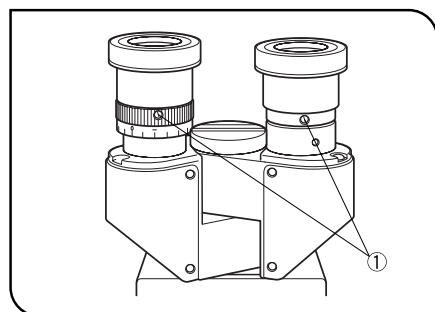

Fig. 19
**6 Using the Eyepiece Micrometer Disk (Optional) (Figs. 19 & 20)**